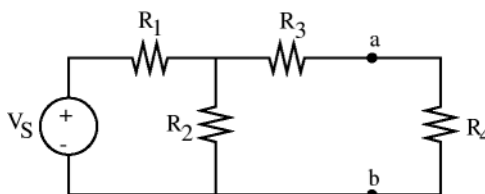

Figure 2: Circuit 1
3. Build the circuit shown in Figure 2 on the breadboard mounted to the bench top, using the DC power supply as v_s . Once you have built the circuit, set the value of v_s to 1 V. Be sure to use the multimeter to make sure the terminal voltage produced by the power supply is as close to 1 V as you can get it.